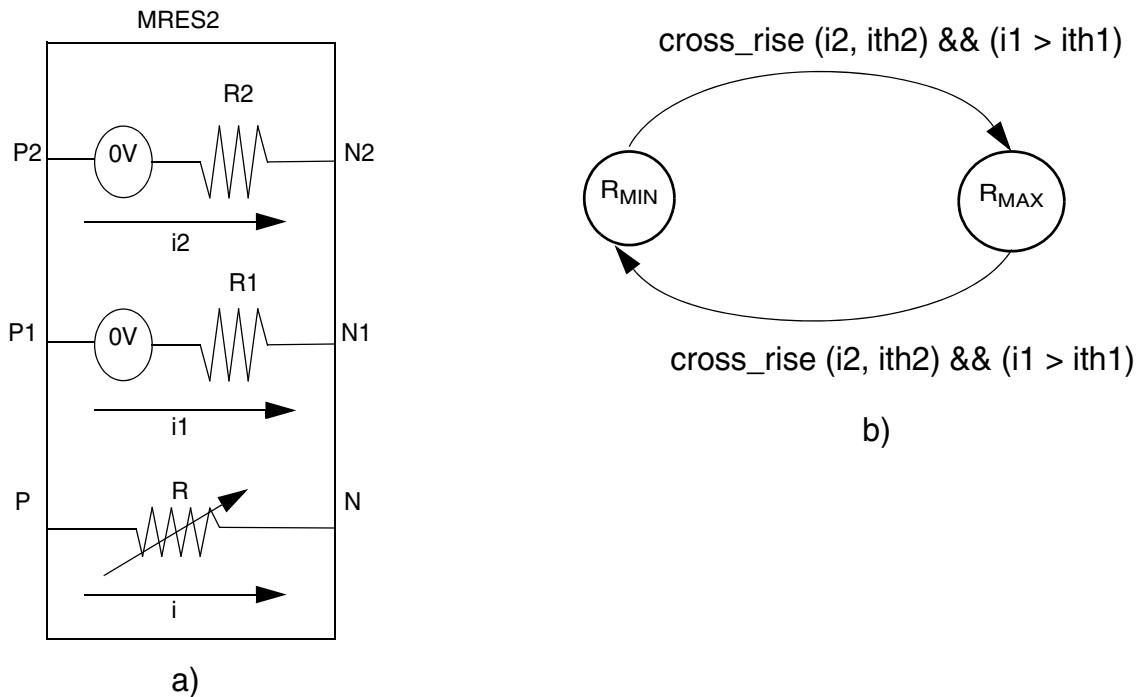

Figure 33 Toggle MRAM 6-terminal device (MRES2) and Toggle MRAM state sequence and current requirements
Graphically, the toggle MRAM core cell can be represented as a 6-terminal device, consisting of unidirectional write-through bit line (BL) and word lines (WL1 and WL2) shown in Figure 33 on page 646.
Based on the same symmetrical current write sequence, the state of the Toggle MRAM core cell will toggle from one state to the other. The memory cell has two states of resistance values corresponding to the direction of the magnetization in the free layer with respect to that of the fixed layer. When the two magnetic layers are parallel, the cell is in the low resistance state (R_{MIN}) and when the two magnetic layers are anti-parallel, the cell is in the high resistance state (R_{MAX}). See Figure 33 on page 646.